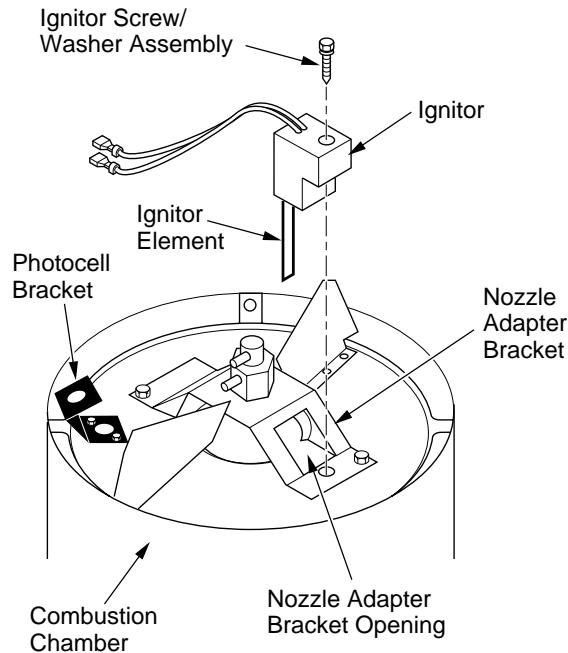

Figure 12 - Ignitor Replacement
6. Remove combustion chamber. Stand combustion chamber on end with nozzle adapter bracket on top (see Figure 12).
9. Carefully guide ignitor into opening in nozzle adapter bracket. Do not strike ignitor element. Attach ignitor to nozzle adapter bracket with screw using a 1/4" nut driver (see Figure 12). Torque .90 to 1.69 N·m (8 to 15 in-lbs) Do not over torque.